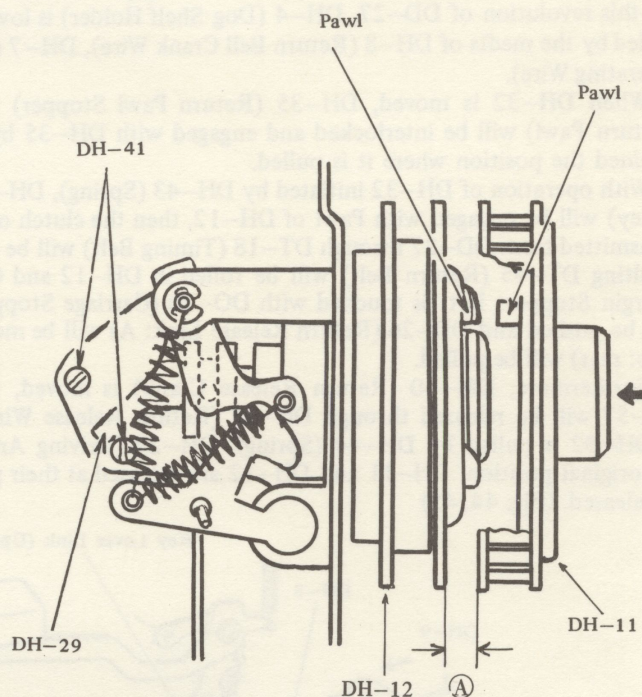

Fig. 47
- (1) If the engaging degree and the clearance between DH-15 (Return Drum) and the Pawl portion of DH-11 (Timing Pulley) are not properly arranged, it may be generated that Return is repeated or an unusual noise is appeared, consequently adjust the momentum of DH-29 (Driving Arm) by DH-41 (Eccentric Screw). Adjust the clearance (A) between DH-12 (Return Drum) and DH-11 (Timing Pulley) to 1.0 mm for engagement of the Clutch and to 3.0 mm for disengagement of the Clutch. (Fig. 47)